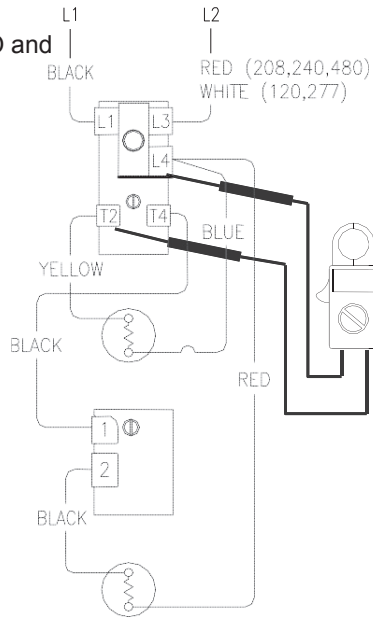

Figure 8
4. Check across terminals L4 and T2 of upper thermostat (see Figure 8).
4. See Figure 8 above, check voltage across terminals L4 and T2 of upper thermostat.
4. Check across terminals L4 and T2 of upper thermostat (see Figure 8 on page 17).